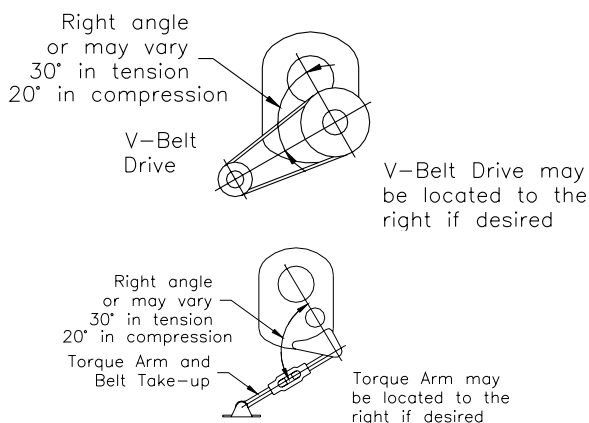

Figure 2 - Positioning
10. Install motor and V-belt drive so belt pull will be roughly at right angles to the center line between driven and input shaft (Figure 2). This will permit tightening V-belt drive with the torque-arm.
12. Install torque-arm fulcrum on a rigid support so that the torque-arm will be approximately at right angles to the center line through the driven shaft and the torque-arm anchor screw (Figure 2). Make sure that there is sufficient take-up in the turnbuckle for belt tension adjustment when using V-belt drives.